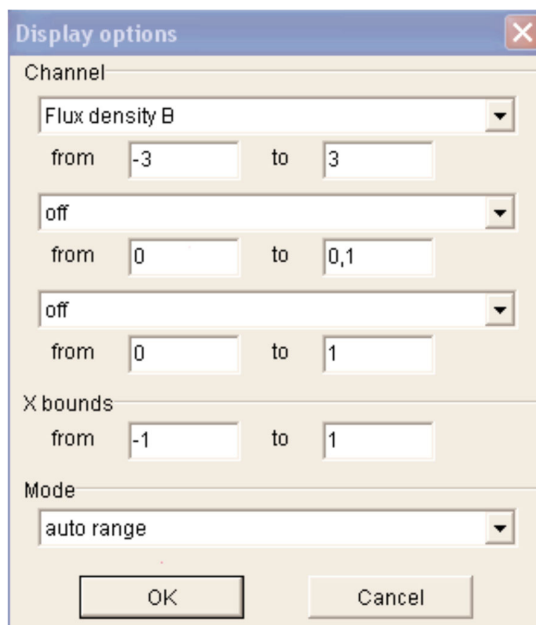

Figure 5: Diagram settings
5. When turning on the displays and diagrams, **Display options** charts appear. Click **OK** for the displays and set the parameters for the diagram as seen in Figure 5.